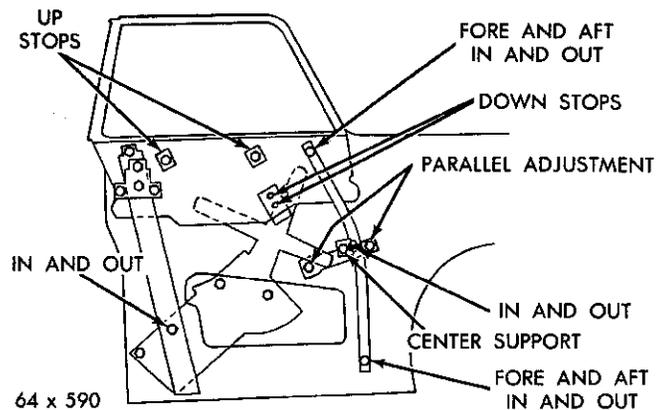

Fig. 18—Quarter Glass Adjustments (Imperial)
(2) Remove the upholstery trim panel and weather shield.
(3) Loosen the upper and lower channel adjusting screw lock nuts.
(4) Run the upper channel adjusting screws either "in" or "out" so that the glass makes light contact with the door upper weather seal.
(5) Remove the channel adjusting screws either fore or aft until the front edge of the rear door glass evenly contacts the seal of the front glass.
(6) Tighten the locking nuts of the upper adjusting screws.
(7) Adjust the lower track adjusting screws so that the top edge of the glass seals against the lip of the roof seal. Turning the screw in will move the top of the glass inboard and turning the screws out will move the top of the glass inboard and turning the screws out will move the top of the glass outboard.
(8) Tighten the locking nuts, install the weather shield, upholstery trim panel and install the inside handles and remote lock lever.
18. QUARTER GLASS ADJUSTMENT (Imperial Models) (Fig. 18)